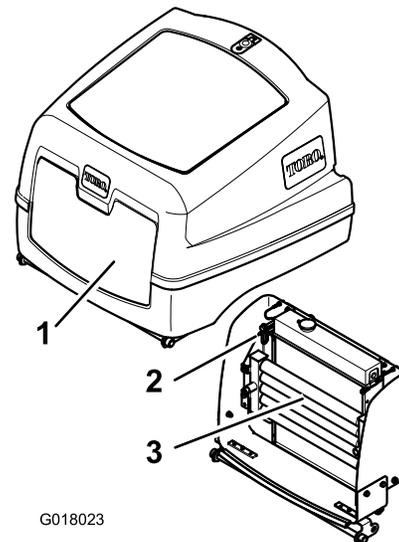

Figure 59
4. Release the latch and open the engine cover (Figure 59).